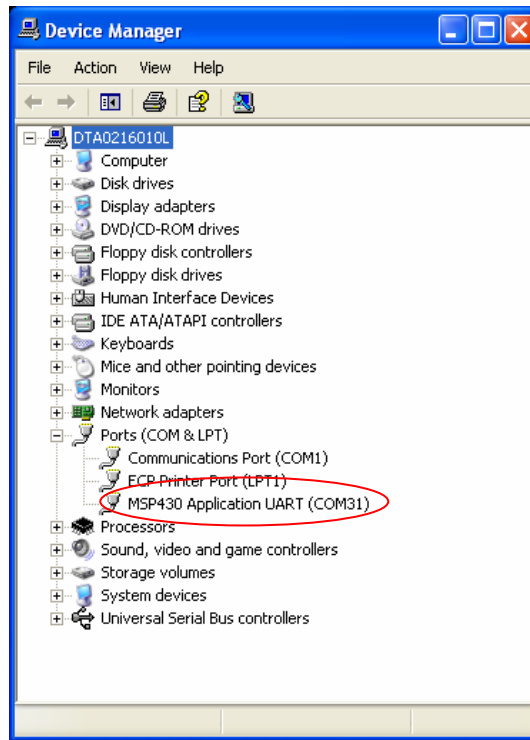

Figure 18. Device Manager
10. The eZ430-RF2500 is now installed and ready to use. Observe the Device Manager for the assigned COM-port for the MSP430 Application UART as shown in Figure 18.